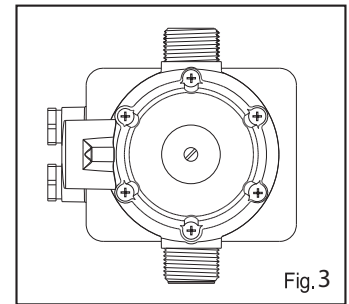

Fig. 3
Check the power supply to be ~220 ±10% Vac, dismount the cover 1 of the electronic circuit, and make the connections as per diagram on plate 2. The RPC32E can be used with a single-phase pump with electrical input greater than 16 A.). In this case the electrical connections must be made as shown in the diagram, fig.3
- Verify the connections according to Fig.3.